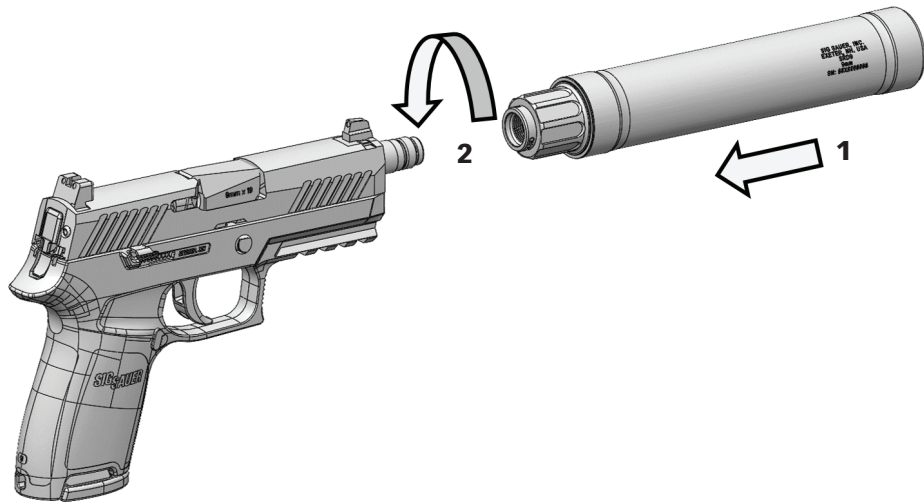

Fig. 3.1
- Being careful to avoid cross threading the parts, place the opening of the piston on the muzzle of the host firearm and screw the suppressor on firmly hand tight (see Fig. 3.1).